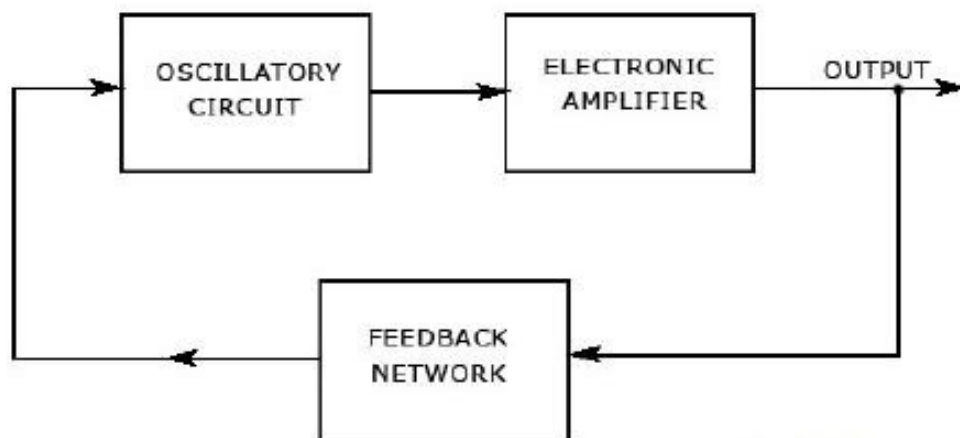

Figure 1: Block Diagram of an oscillator
Oscillator is an electronic circuit that produces output of a periodic and oscillating waveform. It converts direct current from supply to alternating current output. Oscillator is widely use in signal broadcasting system such as radio and television transmission system. Figure 1 below shows the block diagram of oscillator.
1. Refer to FIG1 of the OP-AMP-OSC-02 experiment module.